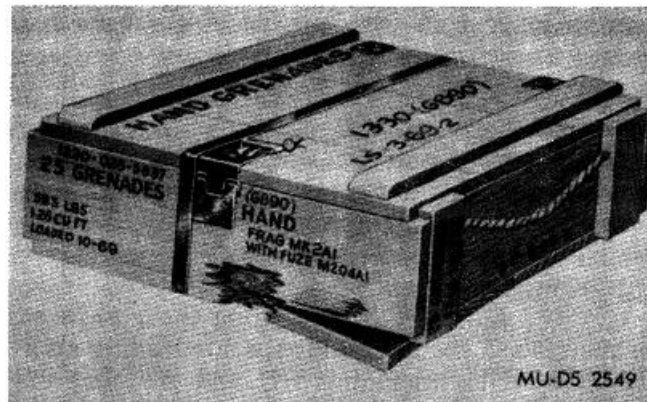

Figure 4-1. Damaged packing box.
(1) Block and brace grenade packages being transported in trucks, jeeps and other tactical vehicles. (Blocking and bracing must be adequate to withstand sudden stops and starts, as well as off-road operations.)
(2) If packing is broken or damaged (fig. 4-1) and munitions remain serviceable, restore or replace packing by using acceptable packing material. Assure that all markings (e.g., lot number, nomenclature, FSN, etc.) are transferred to replaced packing.